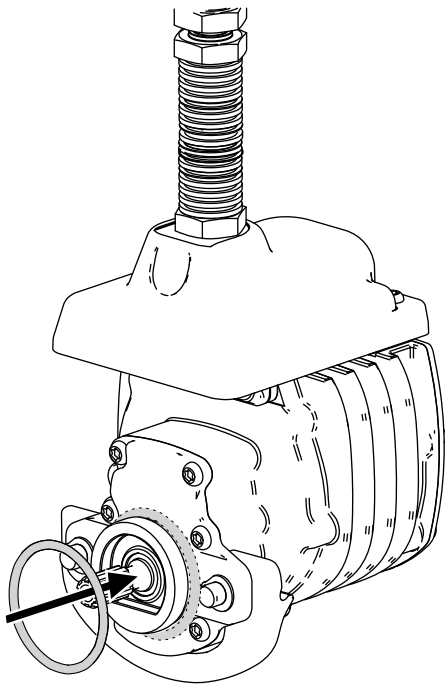

Figure 7
3. Install an O-ring to each reel motor as shown in Figure 7.